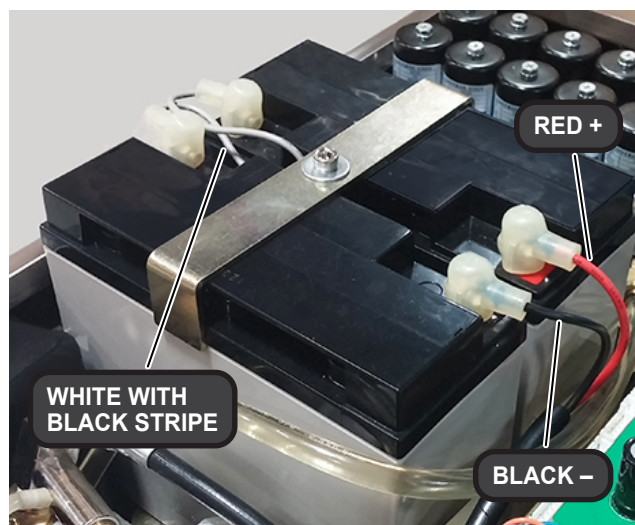

Figure 27. Battery Hold Down Bar.
1. Remove four (4) screws that secure the service access cover to the base and carefully remove the service access cover.
2. Loosen and remove the hex bolt and washer that secure the battery hold down bar in place over the batteries. Remove the battery hold down bar (Figure 27).